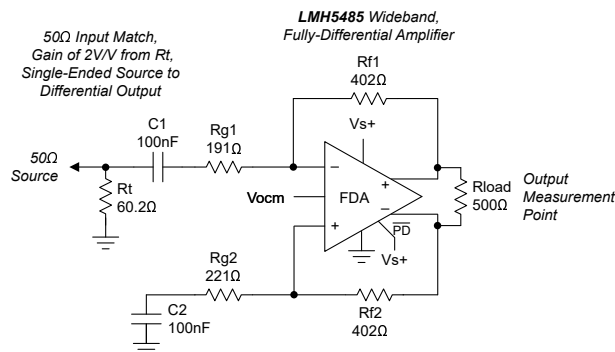
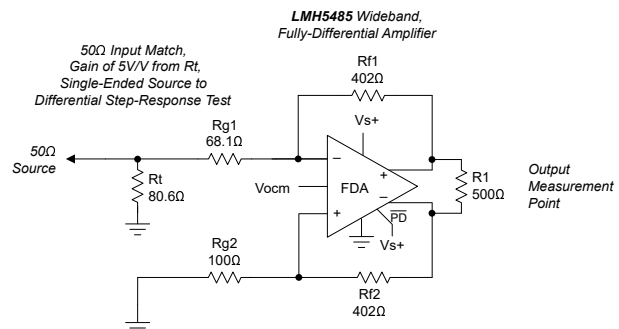

Figure 7-1. AC-Coupled, Single-Ended Source to a Differential Gain of a 2V/V Test Circuit
Figure 7-2. DC-Coupled, Single-Ended-to-Differential, Basic Test Circuit Set for a Gain of 5V/V
Single-ended input to differential output, simulated differential output impedance, see Figure 7-1
Single-ended input to differential output, gain of 2 (see Figure 7-1), simulated with 1% resistor, worst-case mismatch
Single-ended to differential, gain of 2 (see Figure 7-1) PSRR simulated to differential output
Average Vocm output offset of 37 units, standard deviation < 2.5mV, see Figure 7-2
Single-ended to differential gain of 2 (see Figure 7-1), PSRR for negative supply to differential output (1kHz simulation)
Single-ended to differential gain of 2 (see Figure 7-1), PSRR for positive supply to differential output (1kHz simulation)
see Figure 7-2
The LMH5485-SP offers the advantages of a fully differential amplifier (FDA) design, with the trimmed input offset voltage of a precision op amp. The FDA is an extremely flexible device that provides a purely differential output signal centered on a settable output common-mode level. The primary options revolve around the choices of single-ended or differential inputs, ac-coupled or dc-coupled signal paths, gain targets, and resistor Value selections. Differential sources can certainly be supported and are often simpler to both implement and analyze. Figure 7-1 and Figure 7-2 show examples of both ac and dc coupled single-ended to differential circuits.
Figure 7-1 shows how most characterization plots fix the R_f value at 402Ω. This value is completely flexible in application, but the 402Ω provides a good compromise for the issues linked to this value, specifically:
- Added output loading. The FDA appears like an inverting op amp design with both feedback resistors as an added load across the outputs (approximate total differential load in Figure 7-1 is $500\Omega \parallel 804\Omega = 308\Omega$).
The outputs offer near rail-to-rail output swing (0.2V headroom to either supply), while the device inputs are negative rail inputs with approximately 1.2V of headroom required to the positive supply. Figure 7-2 shows how this negative rail input directly supports a bipolar input around ground in a dc-coupled, single-supply design. Similar to all FDA devices, the output average voltage (common-mode) is controlled by a separate common-mode loop. The target for this output average is set by the Vocm input pin that can be either floated to default near midsupply or driven to a desired output common-mode voltage. The Vocm range extends from a very low 0.91V above the negative supply to 1.1V below the positive supply, supporting a wide range of modern analog-to-digital converter (ADC) input common-mode requirements using a single 2.7V to 5.4V supply range for the LMH5485-SP.
Going to the device input pins side, because both the source and balancing resistor on the nonsignal input side are dc blocked (see Figure 7-1), no common-mode current flows from the output common-mode voltage, thus setting the input common-mode equal to the output common-mode voltage.
The output considerations remain the same as for the ac-coupled design. Again, the input can be dc-coupled while the output is ac-coupled. A dc-coupled input with an ac-coupled output can have some advantages to move the input Vicm down if the source is ground referenced. Figure 7-2 shows how when the source is dc-coupled into the LMH5485-SP, both sides of the input circuit must be dc coupled to retain differential balance. Normally, the nonsignal input side has an R_g element biased to whatever the source midrange is expected to be. Providing this midscale reference gives a balanced differential swing around Vocm at the outputs.